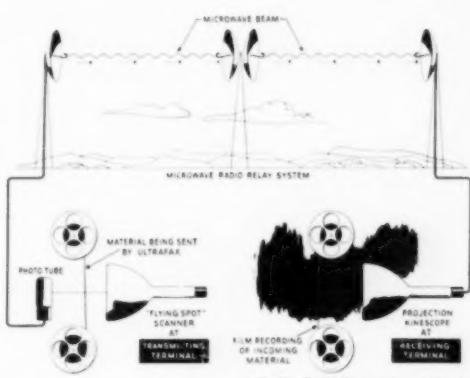

FIG. 5. Diagram of Ultrafax System for Rapid Transmission of Messages—A Million Words a Minute.
The system works as follows: (1) each page is photographed on special heat resistant film and the film is run through a rapid-developing machine; (2) the finished film is sent through the Ultrafax television system at 30 messages a second, giving a transmission speed of 1800 pages a minute; (3) at the receiver motion picture film again records the transmitted images and a rapid processing machine develops them for immediate projection or multiple copy prints (Fig. 5). This system was developed by the Radio Corporation of America with the cooperation of the Eastman Kodak Company and the National Broadcasting Company. It promises to be of great usefulness for transmission of messages, printed matter, charts, documents and other material at a rate never achieved before.